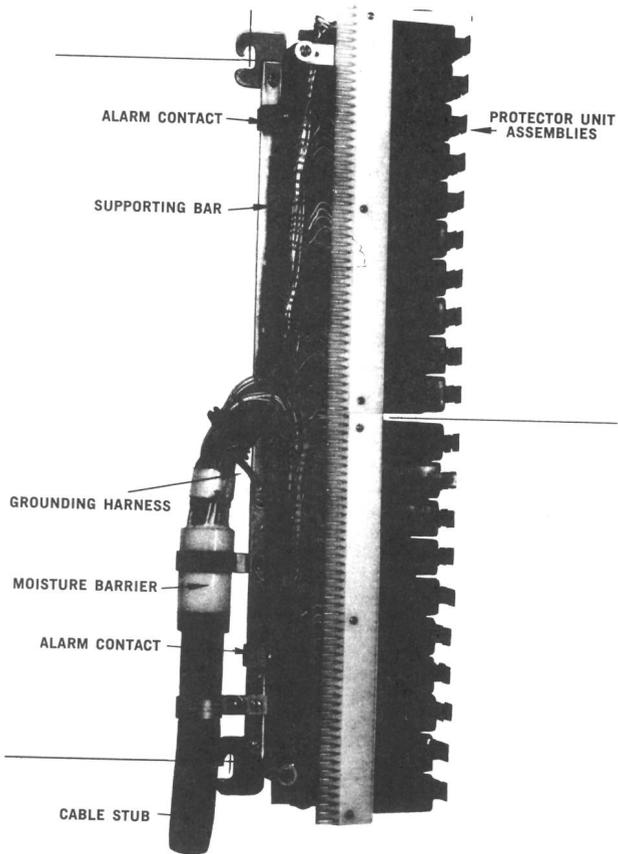

FIGURE 6. Stub and Mounting Bracket Arrangement
- b. Remove the connector from the shipping carton. Route the stub cable into the cable vault. Remove any cable twist that may be present. Install the 12-24 screws (furnished with the connector) in the threaded holes on the left-hand side of the adapters. Starting at the bottom, hook the ear-shaped mounting brackets on the connector over the screws in the adapter (Figure 6). Place all of the connectors on the vertical. Tighten the screws before starting the next vertical. Dress the stub cable.